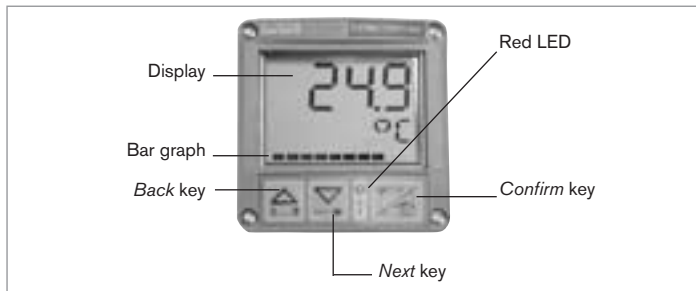

Fig. 22: Description of the display
- a display which gives the temperature measured, the configuration and a bar graph (see *Fig. 22*) ;
- a red LED which indicates the commutation status of the transistor or relay output (see *Fig. 22*) ;
- three browse keys (see *Fig. 22* and table below).